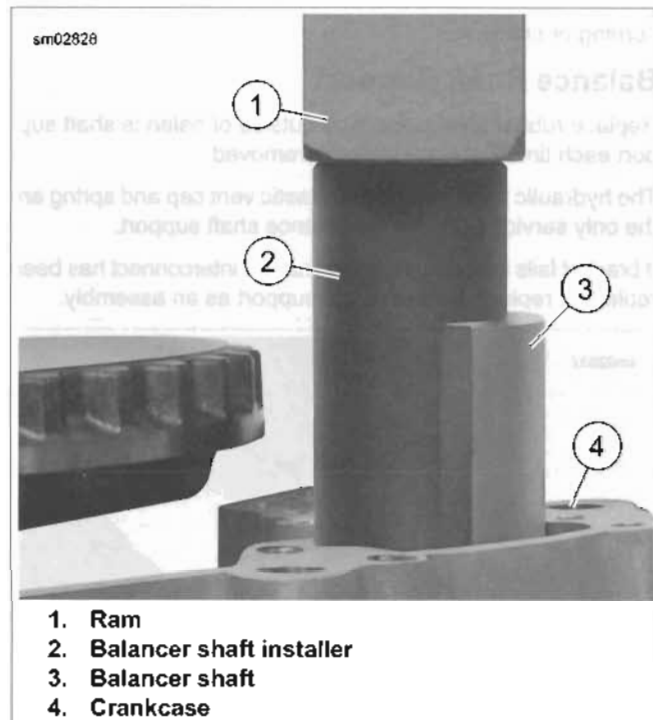

Figure 3-153. Balance Shaft Installation
- See Figure 3-153. Place balancer shaft (3) and bearing in crankcase (4).
- Place BALANCER/BEARING INSTALLER (Part No. HD-48309) (2) over balancer shaft.